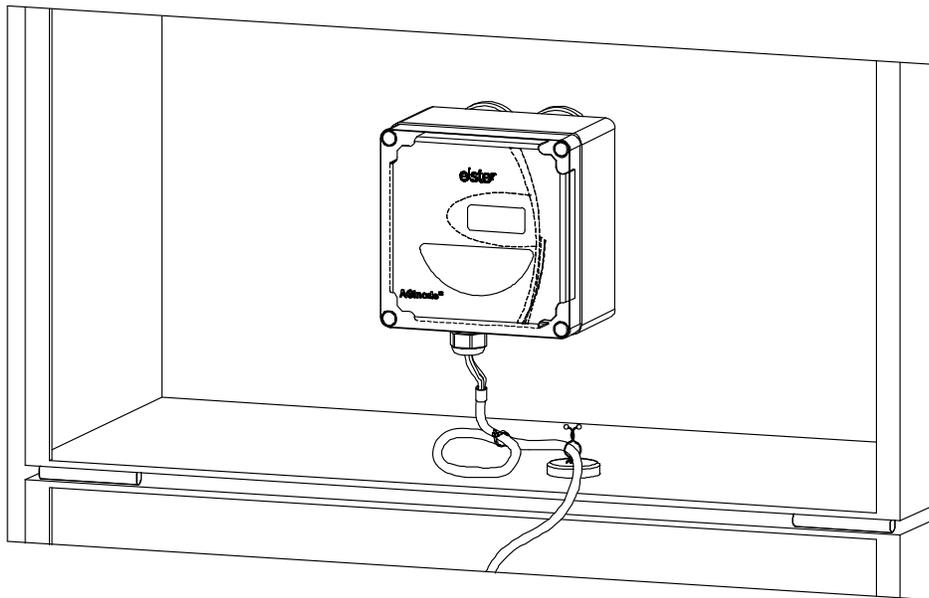

Figure 3.
3. Begin by mounting the meter enclosure. The most available space is usually at the top front of the transformer enclosure. The meter enclosure is mounted inside the transformer cover via four strong magnets. Choose a lateral position which offers best clearance to the transformer wiring. With the transformer cover fully open, attach the meter enclosure to the transformer cover as shown in Figure 3.